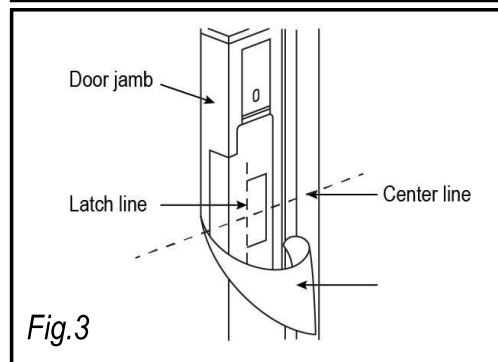

Fig.3
3. Align the included mounting template to the latch and center lines (see fig. 3)